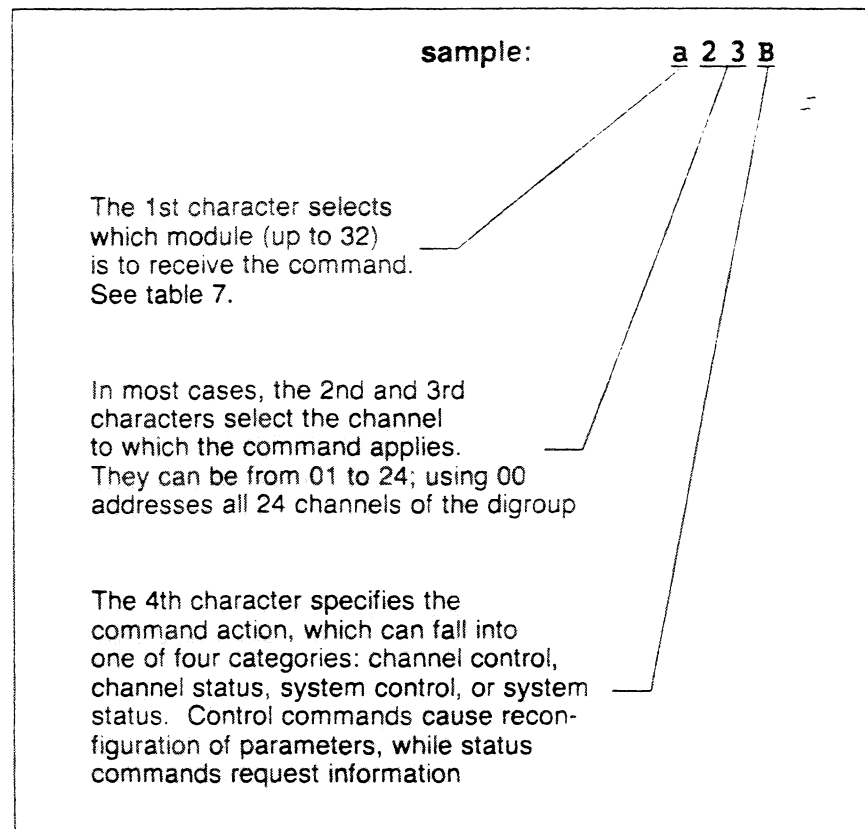

Figure 8. Input Command Format
- 5.02 All commands consist of a sequence of four ASCII characters. They take the form shown in figure 8.